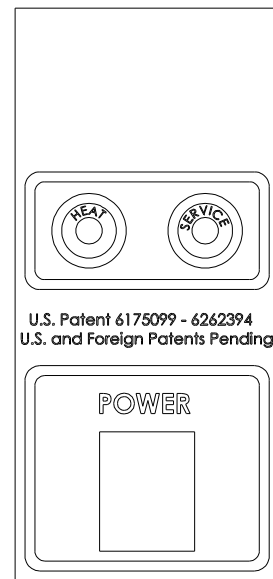

Figure 4.2
4. Observe the LEDs on the front of the unit, (Figure 4.2). Press and release S1 on the back of the control until the heat light on the front of the unit flashes.